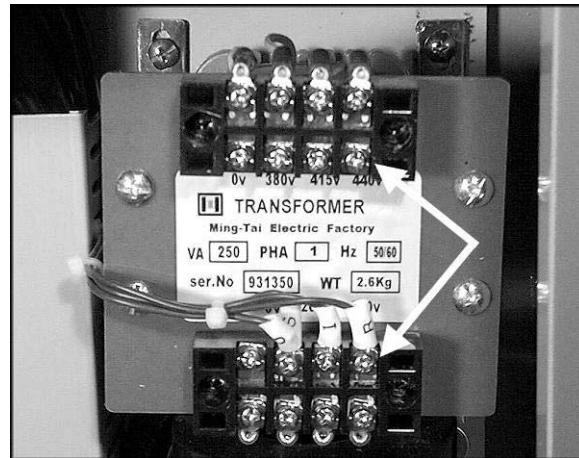

Figure 6
2. In the electrical cabinet, switch the "R" wire on the transformer from the 220V to the 440V terminal. See Figure 6. (Refer to the wiring diagram on the inside cover of the electrical box for clarification.)